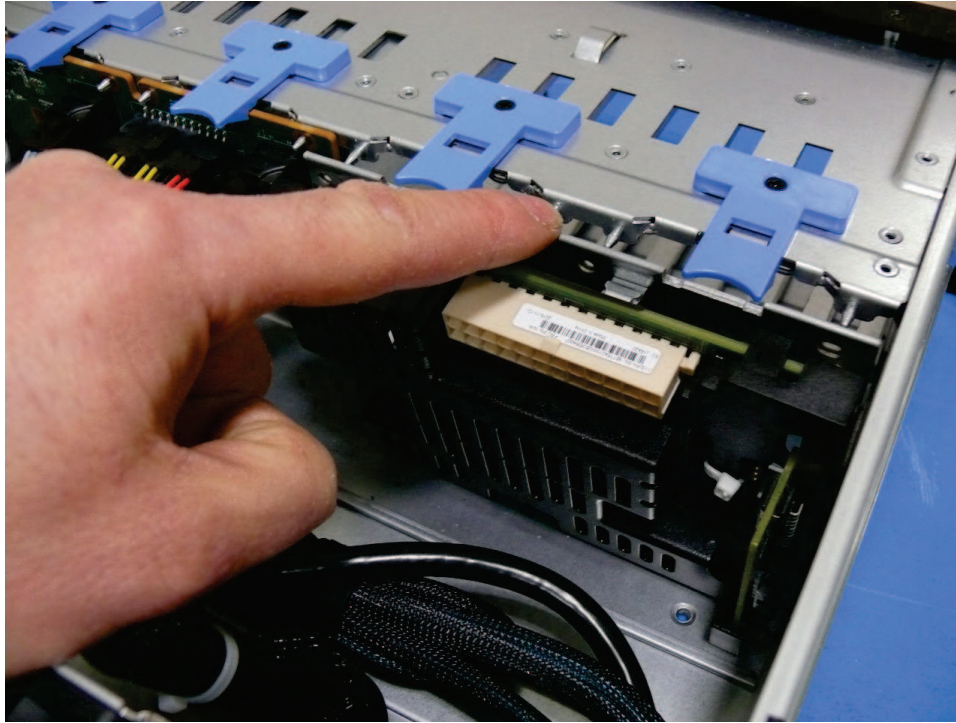

Figure 167. Battery backplane in the 2145-SV1 chassis
6. Fit the lower edge of the battery backplane into the chassis. Push the top into position until it locks in place, as shown in Figure 167 on page 202.